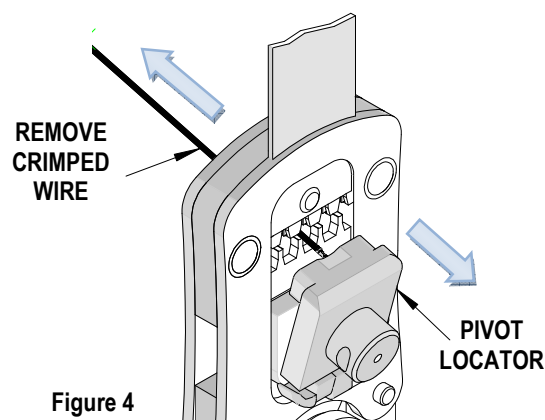

Figure 4
8. Carefully remove the crimped terminal. Pivot the terminal locator slightly out if necessary. See Figure 4.
2. Remove the M4 BHCS. See Figure 4.